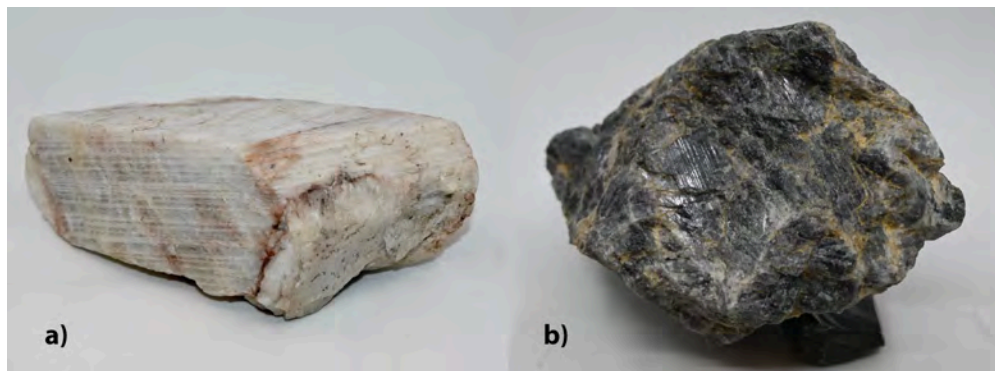

Figure 2.3.9: Striations on light-coloured plagioclase feldspar (albite, a), and dark-coloured plagioclase feldspar (labradorite, b).
- Plagioclase feldspar commonly has striations (Figure 2.3.9).